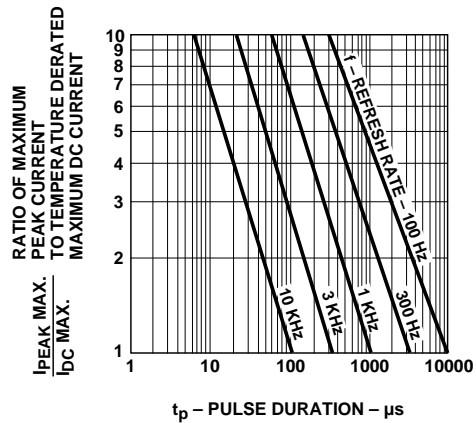

Figure 6. Maximum Tolerable Peak Current vs. Peak Duration ($I_{\text{PEAK MAX}}$ Determined from Temperature Derated $I_{\text{DC MAX}}$).
2. Refer to Figure 6 to establish pulsed operating conditions.